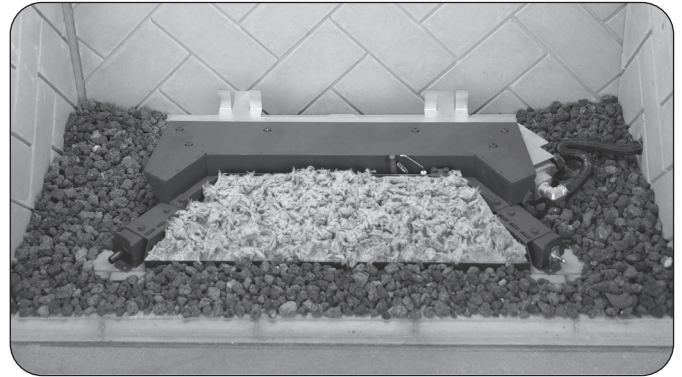

Fig. 20-1 Place lava media (if option purchased)
1. Spread the lava granules on the floor of the fireplace, around the front and sides of the burner system (see Fig. 20-1).